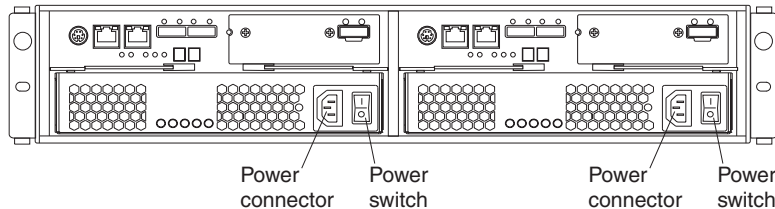
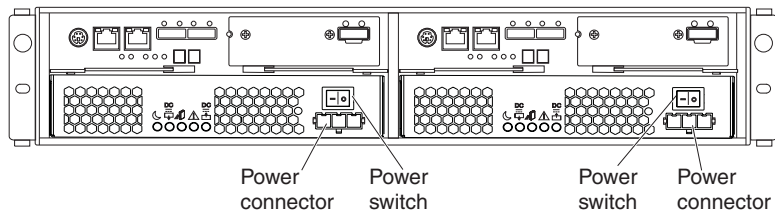

Figure 4-1. Power-supply switches and connectors for DS3500 ac models
Figure 4-2. Power-supply switches and connectors for DS3500 dc models
6. Turn on both power switches on the rear of the storage subsystem. Figure 4-1 shows the locations of the ac power switches. Figure 4-2 shows the locations of the dc power switches.